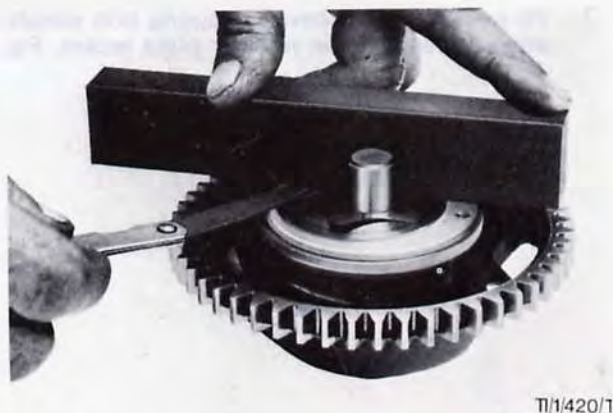

Fig. 174. Check axial play
- (c) Clearance between rotors and pump housing joint face, Fig. 174.